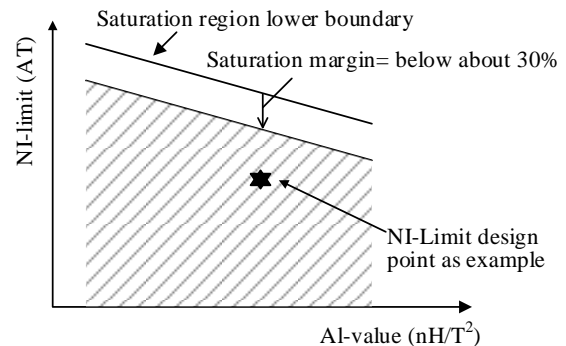

Figure 9-2. Example of NI-limit vs. AL-value Characteristics
In transformer design, AL-value and N_P must be set in a way that the ferrite core does not saturate. Here, use ampere turn value (AT), the result of $I_{DP} \times N_P$ and the graph of NI-Limit (AT) versus AL-value (Figure 9-2 is an example of it). NI-Limit is the limit that the ampere turn value should not exceed; otherwise the core saturates.
When choosing a ferrite core to match the relationship of NI-Limit (AT) versus AL-value, it is recommended to set the calculated NI-Limit value below about 30% from the NI-Limit curve of ferrite core data, as shown in the hatched area containing the design point in Figure 9-2, to provide a design margin in consideration of temperature effects and other variations.